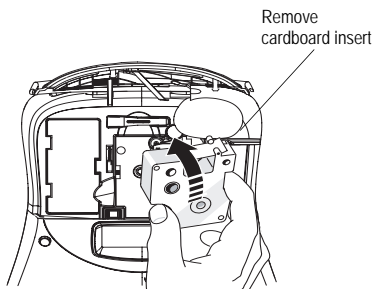

Figure 4
-  The first time you use the labelmaker, remove the protective cardboard insert from between the print head and pinch roller. See Figure 4.